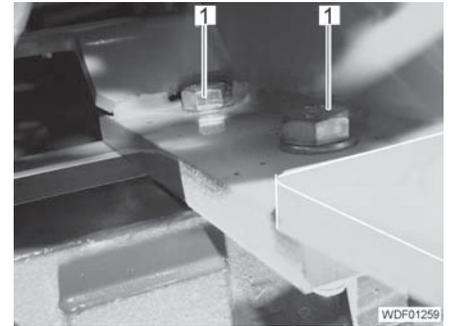

Fig. 255 Rear axle attachment
- Unscrew 2 screws (Fig. 255,1) on each side of the rear axle.